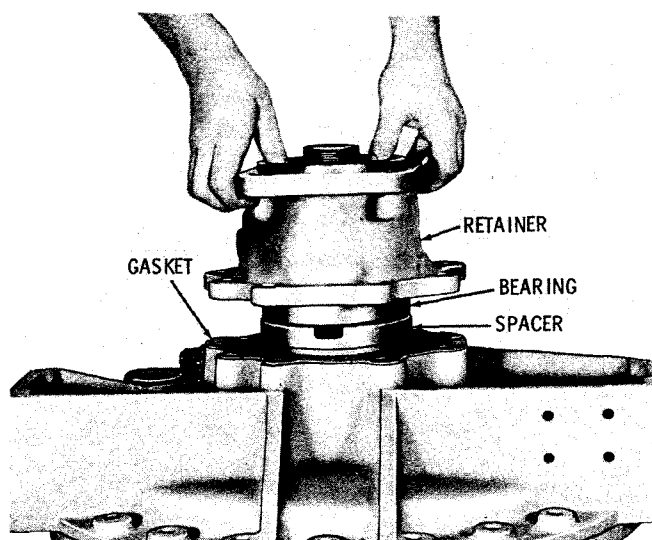

Fig. 7-33. Installing rear bearing retainer S1680
(6) Install the spacer, slot upward, and the bearing (fig. 7-33). If gear assembly 75 (A, foldout 17) was installed, also install spacer 78. Position the spacer gap (approx 5 o'clock) to accept magnetic pickup 79. Heat the bearing to 250° to 300°F. Be sure that the bearing outer race is against the spacer and the inner race is against the speedometer drive gear.
(7) Install the rear bearing retainer and gasket, and secure the retainer with eight 1/2-13 x 1 1/2-inch bolts and lockwashers. Tighten the bolts to 67 to 80 pound feet torque. If spacer 78 was previously installed, install magnetic pickup 79. Be sure the pickup passes freely through the spacer gap. (Refer to the supplement at the back of this manual for installation and adjustment of the magnetic pickup.)
(8) On earlier models, the rear bearing retainer is held by eight 5/8-11 x 1 3/4-inch bolts